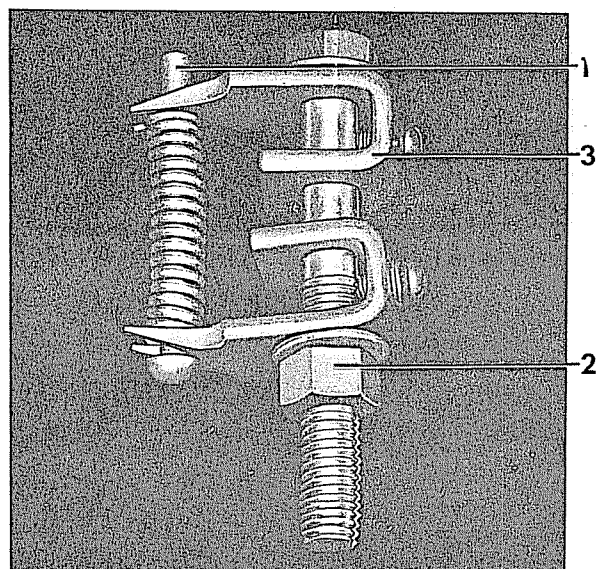

Figure 24B (8034465)
3. Turn nut (2) in clockwise direction to compress contact spring (Figure 24B). Hold spring firmly in yoke on spring compressor to prevent spring from slipping out of the compressor.